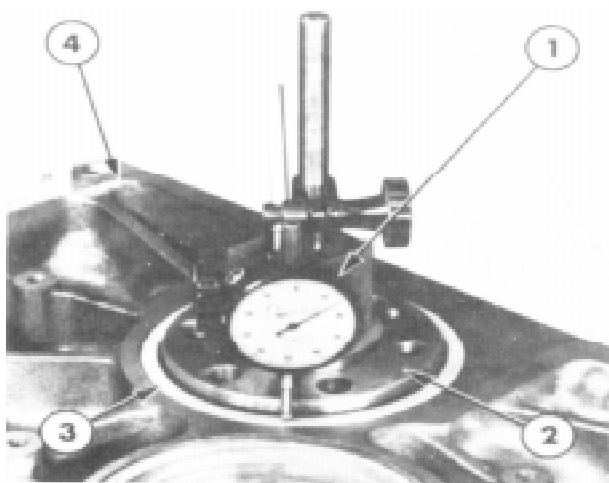

Figure 43
16. Remove the tool and check the run out of the seal which must not exceed 0.016 in. (0.4 mm.) Figure 43.